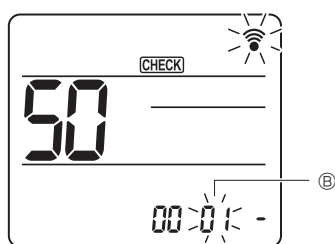

Fig. 11-3
Press the **[↓]** button to set Mode number ②. (Fig. 11-3)